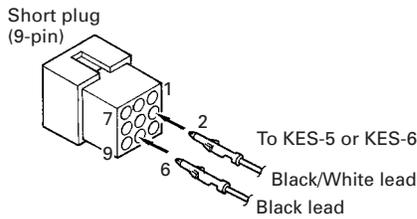

Fig. 8-1-3
3. Reinsert the terminal with the black and white stripe lead into hole number 2, and the terminal with the black lead into hole number 6 (Fig. 8-1-3).